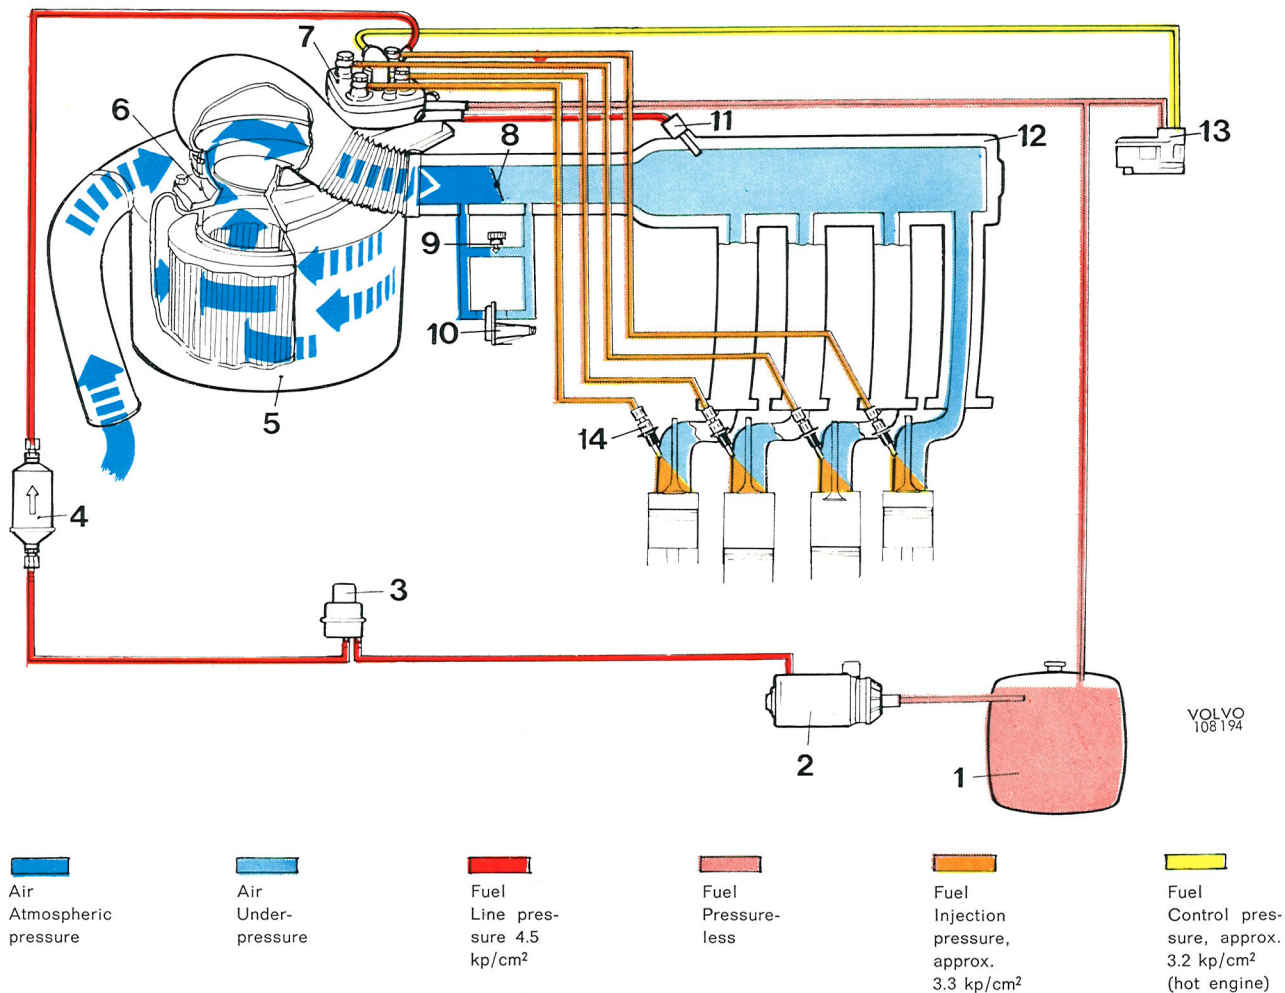

Fig. 2-147. The principles of the CI fuel injection system
The fuel flow is governed by the **air-fuel control unit** which comprises the **air flow sensor**, 6, Fig. 2-147, and the **fuel distributor** 7. The idea is to measure the inducted air flow and let it determine the injected fuel quantity.
**Fuel tank**, 1 Fig. 2-147.